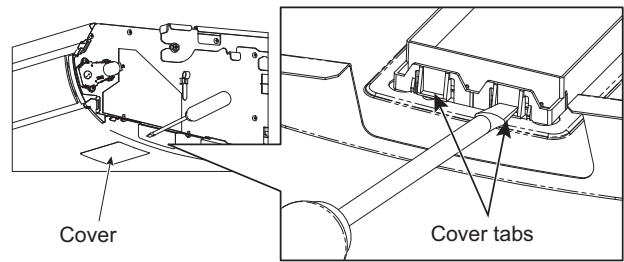

Fig. 8-37
- (2) Insert a flat-head screwdriver from the side, and remove the cover while pressing down on the two cover tabs. (Fig. 8-37)